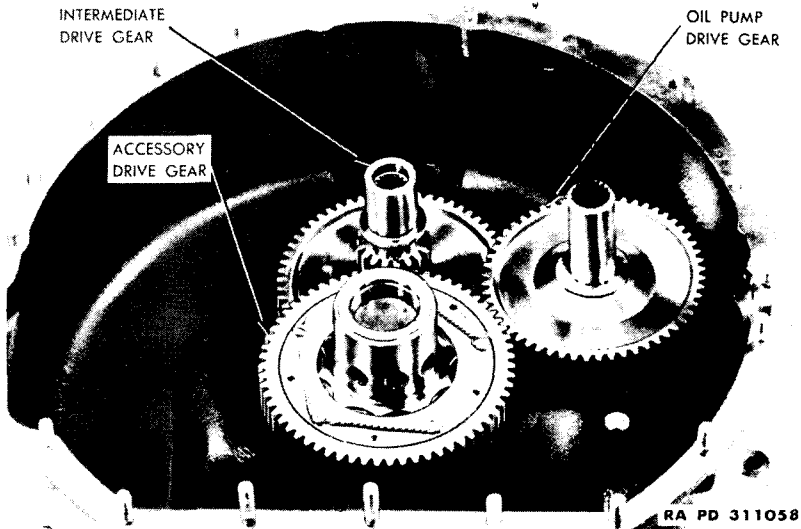
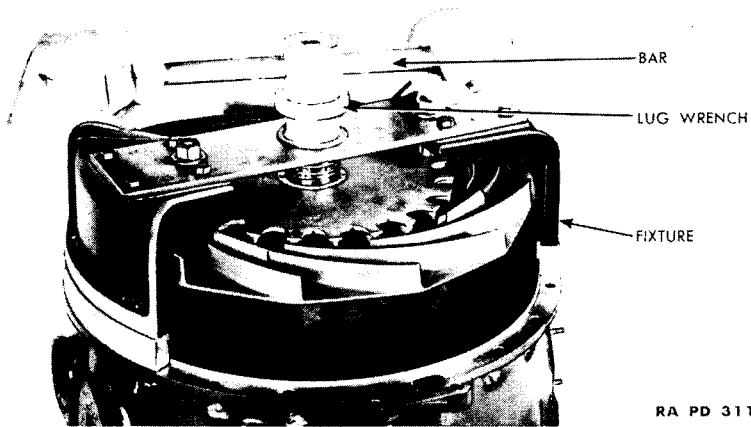
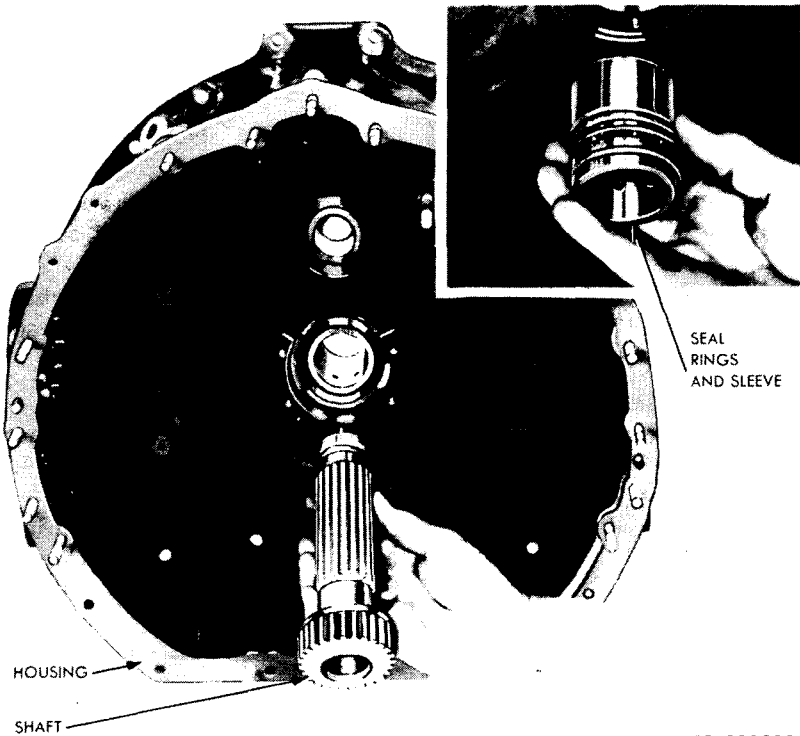

Figure 47 — Accessory Drive Gears
Figure 48 – Removing Impeller Nut, Using Fixture 5A2170 and Wrench 5A2264
Figure 50 — Impeller Drive Shaft and Seal
rear cover and remove puller cap screws. Lift oil pump drive gear (fig. 47) from supercharger rear housing.
(4) **REMOVE IMPELLER AND IMPELLER SHAFT.** Place strips of light cardboard between impeller vanes and diffuser plate to protect these parts during the following operations. Bend tab of impeller nut lock out of slot of nut. Install impeller holding fixture (5A2170) on supercharger rear housing (fig. 48). With impeller locked firmly, remove impeller nut using lug wrench (5A2264). Remove impeller nut lock and impeller shaft front oil sleeve and rings. Remove oil seal
from sleeve and discard rings. Remove impeller locking tool. Remove impeller from shaft using puller (5A2263) (fig. 48). Remove impeller shaft from rear housing (fig. 50). Remove impeller shaft rear oil sleeve and rings and bronze washer from impeller shaft (fig. 50). Do not remove diffuser plate from supercharger rear housing unless inspection indicates that its replacement is necessary.
(1) **INSTALL IMPELLER AND IMPELLER SHAFT INTO REAR SUPERCHARGER HOUSING.** Install bronze washer on impeller shaft splines so that chamfered side of internal diameter of washer is against gear. Install impeller shaft rear oil seal, with rings, on shaft so that oil seal rings are nearest gear (fig. 50). Place impeller shaft in position in supercharger rear housing, taking care that oil seal rings are not damaged. Place impeller shaft spherical thrust ring on rear end of shaft, and install laminated steel shim and impeller shaft retainer on supercharger rear housing (fig. 53). Tighten five flat head screws into tapped holes in rear housing to secure retainer to housing. Do not stake screws at this time. Check impeller shaft end movement by inserting a feeler gage between spherical thrust ring and rear end of impeller shaft (fig. 54) (par. 22). If impeller shaft and movement is not within specified limits, add or subtract laminations from shim used under impeller shaft retainer and repeat this check. Remove impeller shaft retainer attaching screws and retainer, install impeller intermediate gear shaft (fig. 47) in its bushing in rear housing, and reinstall retainer and attaching screws. Stake attaching screws into retainer after tightening.
(5A2170). Tighten impeller front nut using lug wrench (5A2264) (fig. 48). Bend one tab of impeller nut lock into a slot in nut. **CAUTION: Make certain tab does not crack or break on bending.** Remove tools from the supercharger rear housing.
(4) **INSTALL ACCESSORY DRIVE SHAFT.** Install bronze accessory drive shaft thrust ring in recess of impeller shaft retainer. Install accessory drive shaft in position in impeller shaft, meshing accessory drive shaft gear with intermediate impeller shaft pinion (fig. 47). Insure that splines on front end of accessory drive shaft do not scratch or score impeller shaft bushings, and that impeller shaft retainer oil seal ring is not damaged. Check end movement of accessory drive shaft. To do this, install rear supercharger housing cover and gasket temporarily, and secure with three attaching nuts on each side. Locate a dial indicator on rear cover through accessory drive bore, so that indicator spindle contacts drive gear on accessory shaft. Move the shaft up and down by hand, holding end of shaft which extends through impeller shaft. Note difference in indicator readings, which is end movement of shaft (par. 22). If the end movement is insufficient, surface-grind the required amount from bronze accessory drive shaft thrust ring. If the end movement is excessive, install a new thrust ring. When proper end movement is obtained, remove supercharger
rear housing cover. Place oil pump drive gear in position in supercharger rear housing, meshing with accessory drive gear (fig. 47).